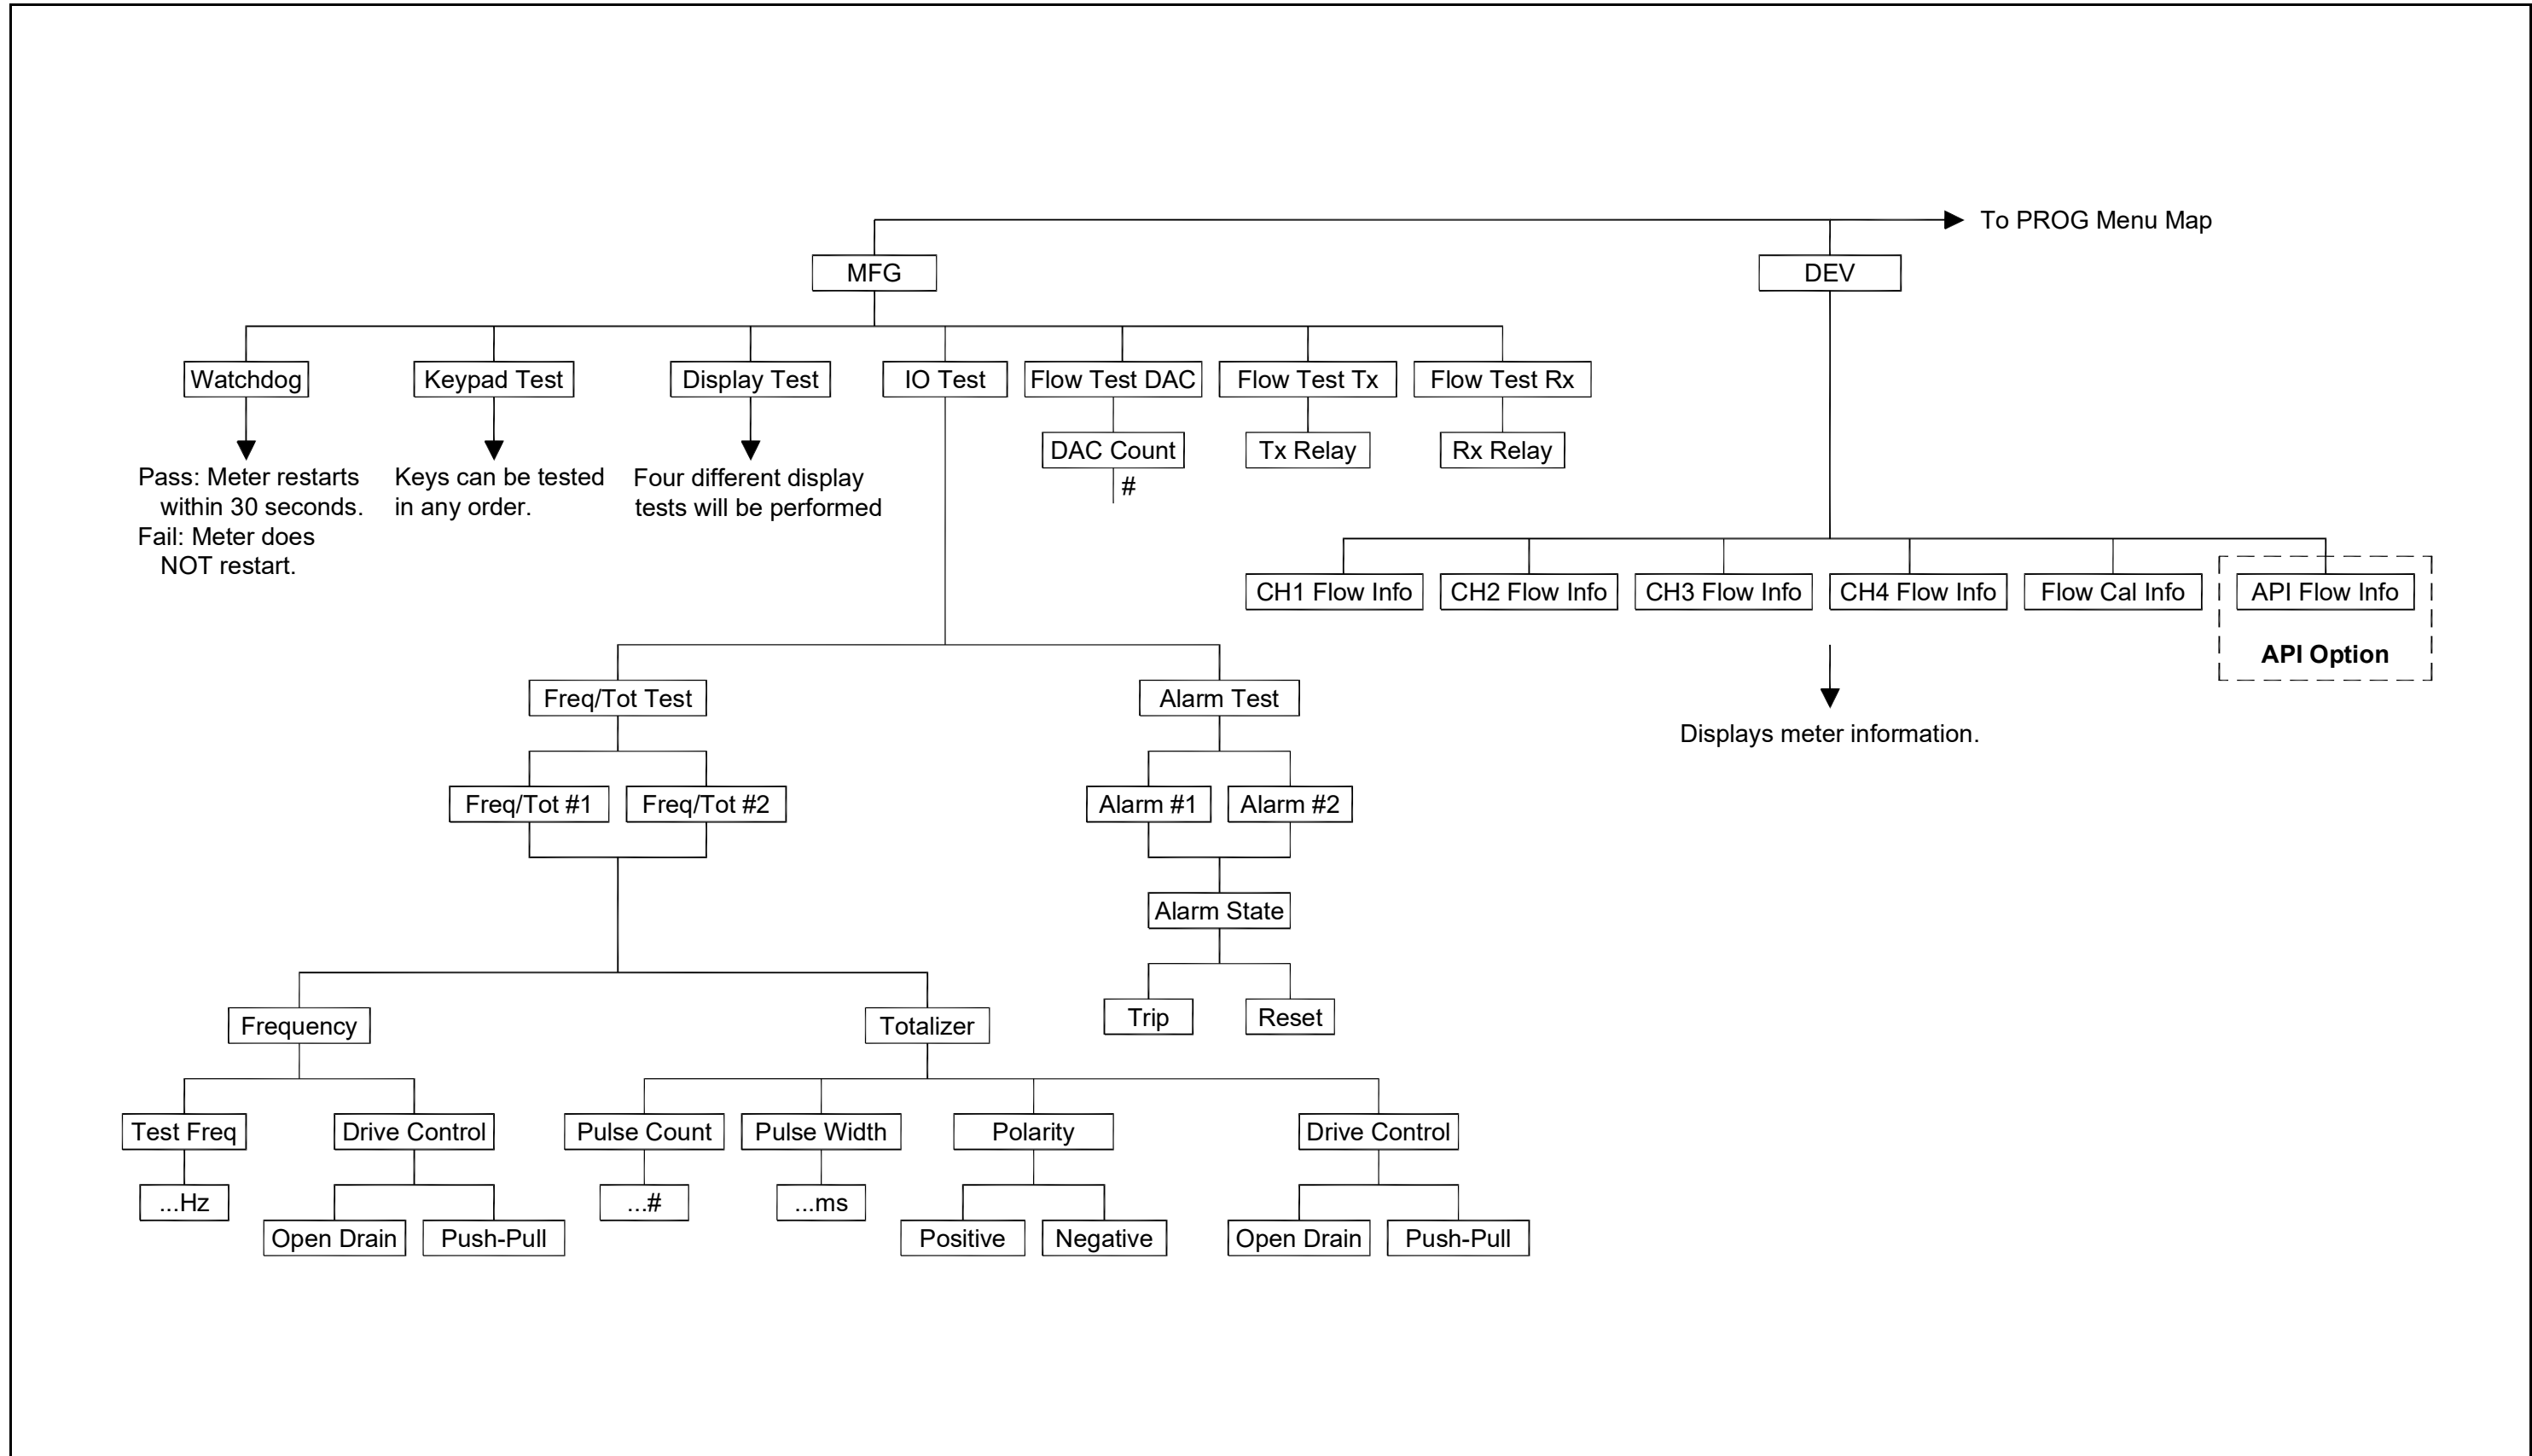

Figure 230: MFG and DEV Menu Map
- Figure 230: MFG and DEV Menu Map